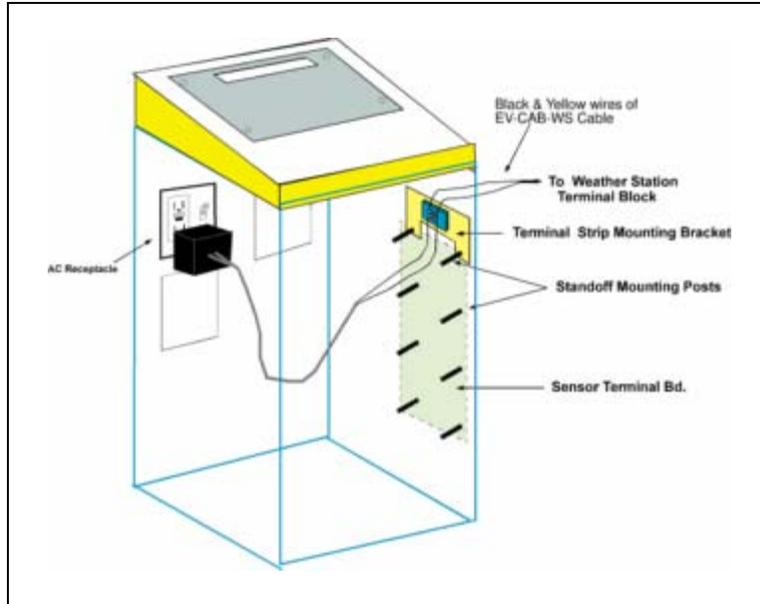

Figure 14: Weather Station Evolution DX2 Controller
- Step 4** Refer to Figure 14: Weather Station Evolution DX2 Controller. Mount the power supply terminal strip to the top of the Sensor Terminal board located on the inside panel of the Evolution DX2 Controller enclosure using the two supplied screws.